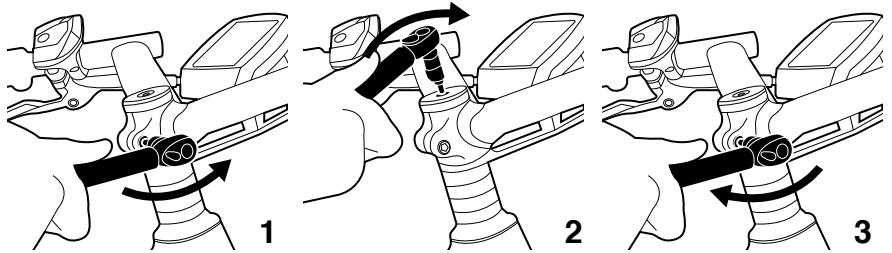

Figure 12. Stages for the headset settings
The headset is made up of two bearings and cups placed at each end of head tube. All Moustache bikes have an « A-head » head set: this is adjusted using the round hood which is found above the stem (as in *Figure 12*).
1. Loosen the screw(s) on the stem as in stage 1 of *Figure 12*.
2. Then progressively tighten, without forcing, the screw in the hood until play disappears as in stage 2 of *Figure 12*.
4. Retighten the screw(s) on the stem following the recommended torques as in stage 3 of *Figure 12*.